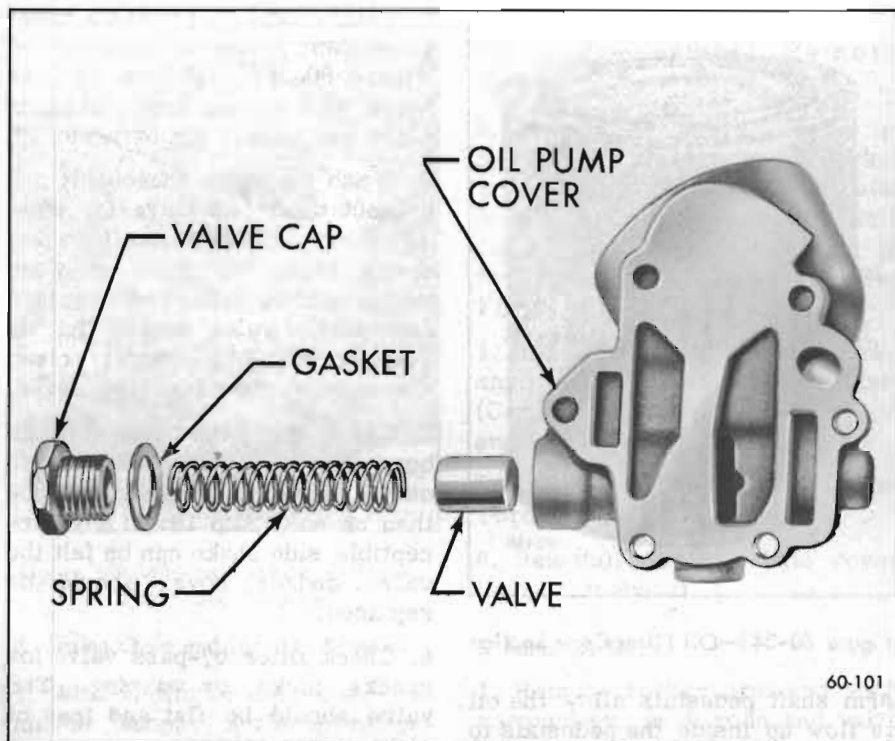

Figure 60-344—Oil Pump Cover and By-Pass Valve
5. Remove the oil pressure relief valve cap, spring and valve. See Figure 60-344. Oil filter by-pass valve and spring are staked in place and should not be removed.
1. Lubricate and install pressure relief valve and spring in bore of oil pump cover. See Figure 60-344. Install cap and gasket. Torque cap to 25-30 lb. ft. with a reliable torque wrench. Do not over-tighten.